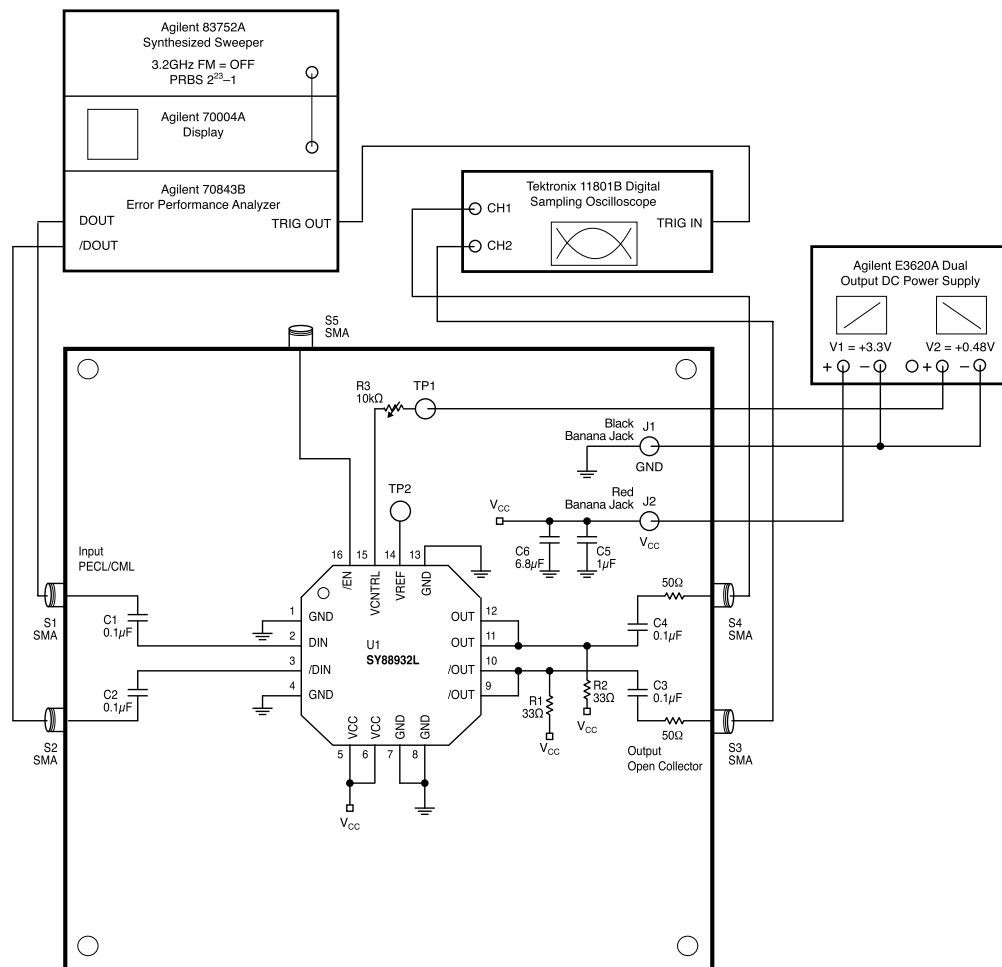

Figure 1. Test Set-Up for the SY88932L Evaluation Board
- Connect TP1 to a power source as shown in Figure 1, Test Set-Up for for the SY88932L.